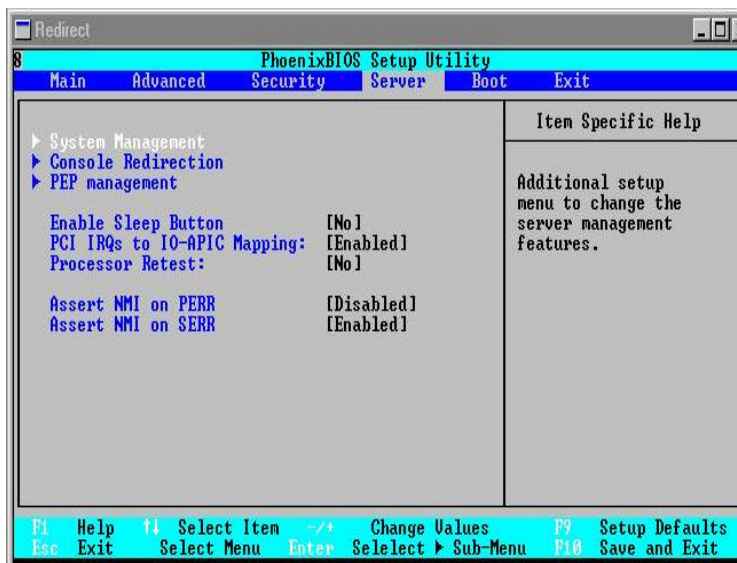

Figure 1: Server Menu in BIOS Setup
3. Use the left/right cursor arrow keys select the tab menu labeled "Server." See Figure 1.